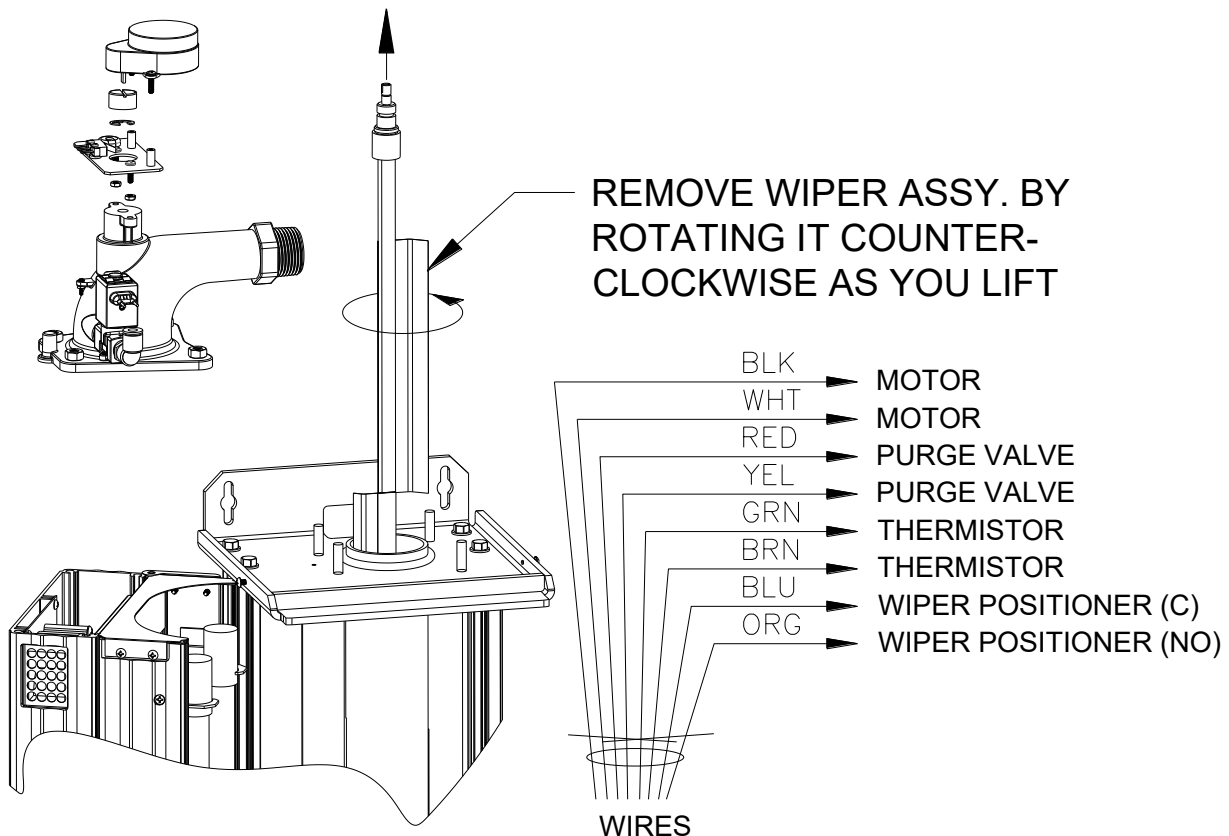

Figure 7.6
Step 12: Press down on the wiper shaft and remove the top manifold (Figure 7.6) by lifting it straight up to disengage the wiper shaft. The shaft adapter should remain on the top of the wiper shaft. Note the orientation of the slot to the wiper blades – the slot is aligned to the wiper blades.